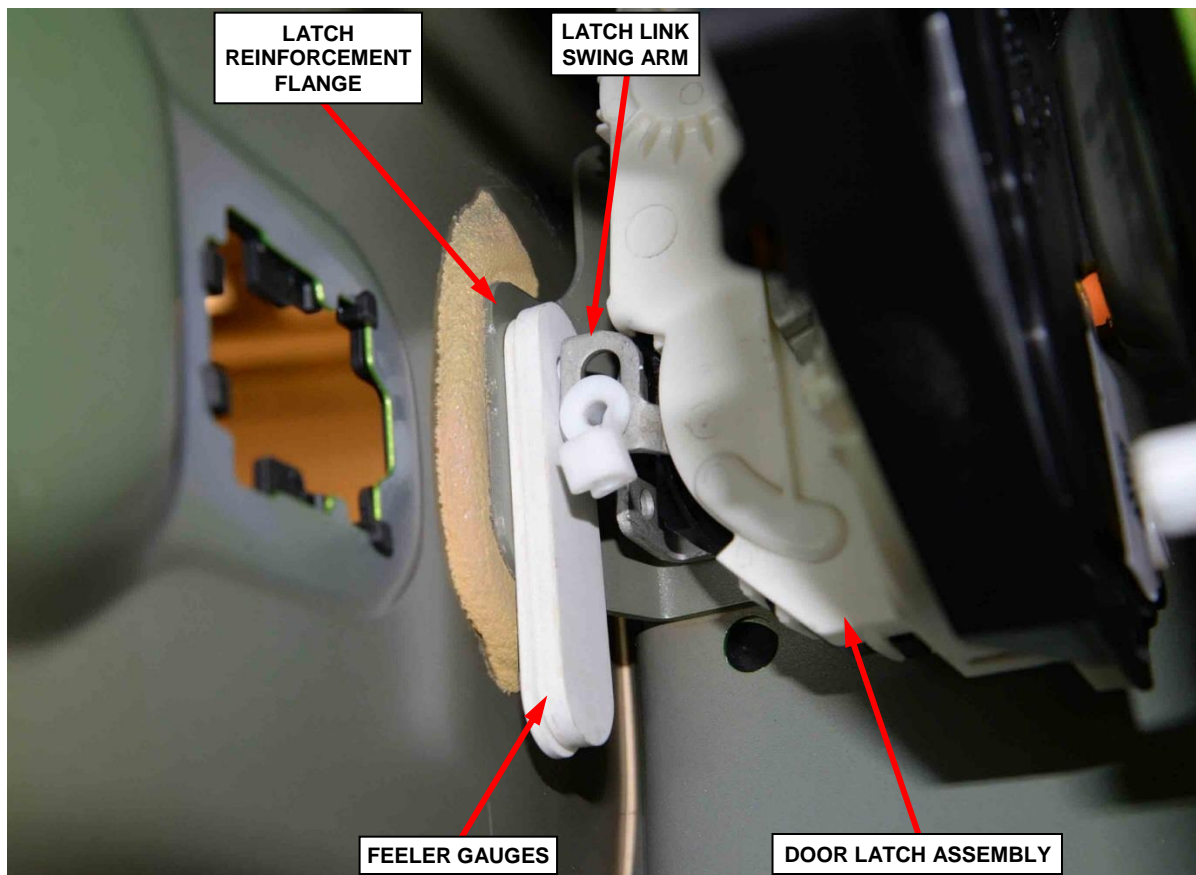

Figure 22 – Measure Between the Latch Link Swing Arm and Latch Reinforcement Flange
37. Using feeler gauges inside the door, measure the distance between the latch link swing arm and latch reinforcement flange (Figure 22).